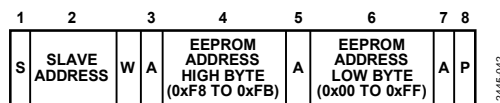

Figure 44. Setting an EEPROM Address
- To set up a 2-byte EEPROM address for a subsequent read, write, block read, block write, or page erase. In this case, the command byte is the high byte of EEPROM Address 0xF8 to EEPROM Address 0xFB. The only data byte is the low byte of the EEPROM address, as shown in Figure 44.